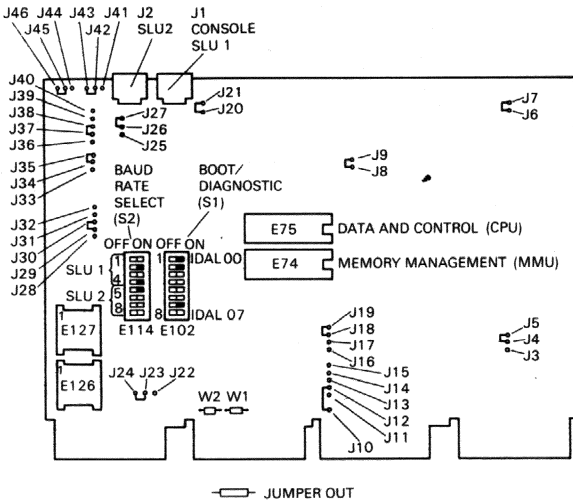

Figure 6 Jumper Locations
4. Check new PCB for jumper and switch position (see Figure 6)